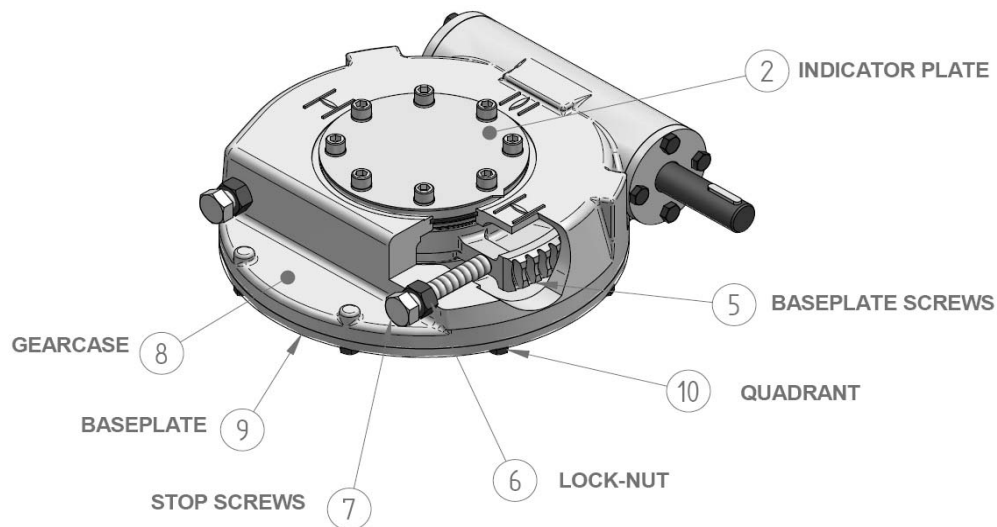

Fig. 4 Setting stop bolts
If an actuator is to be used to operate the gearbox then the actuator limit and torque switch settings should be set up according to the actuator manufacturer's recommendations. The gearbox open and closed stop screws should then be set. See Fig. 4. Close the valve, using the actuator where applicable. Use the indicator plate (2) pointer as an indication of position. Loosen the lock nuts (6) and wind the gearbox closed position stop screw (7) into the gearbox quadrant (5). Back the screw off one turn, then tighten the lock-nut (6) to secure the stop screw. Open the valve with the actuator, and then repeat the process with the open position stop screw.